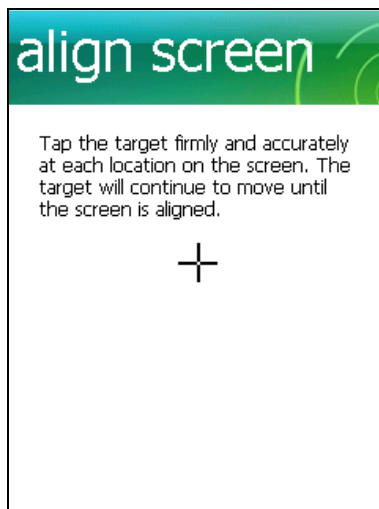

Figure 4
2. Tap **Align Screen** to open the **Calibration** screen shown in Figure 4.